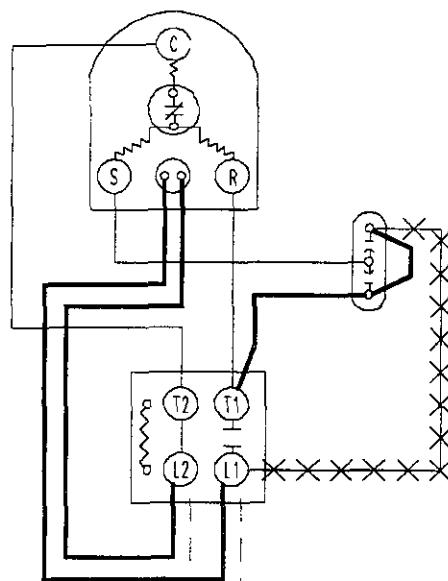

FIG. 2
3. Capacitor must be rewired (no capacitor change required) to function as single MFD, and no longer need "off cycle capacitance heater". (See Figure 2 or 3 on page 2.)